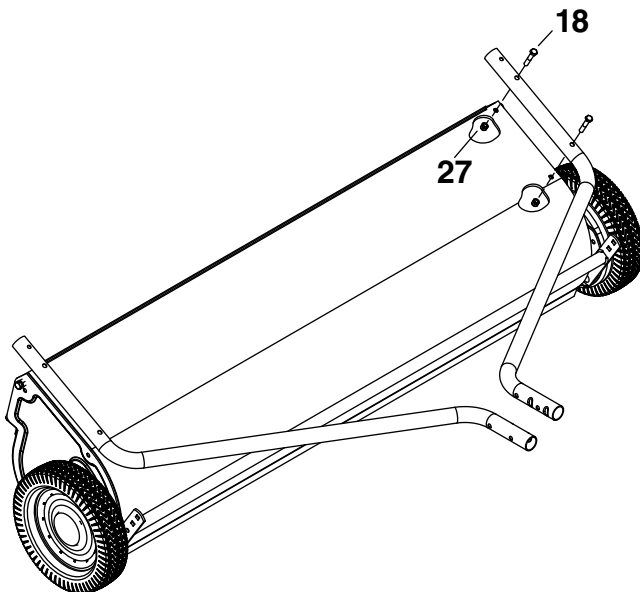
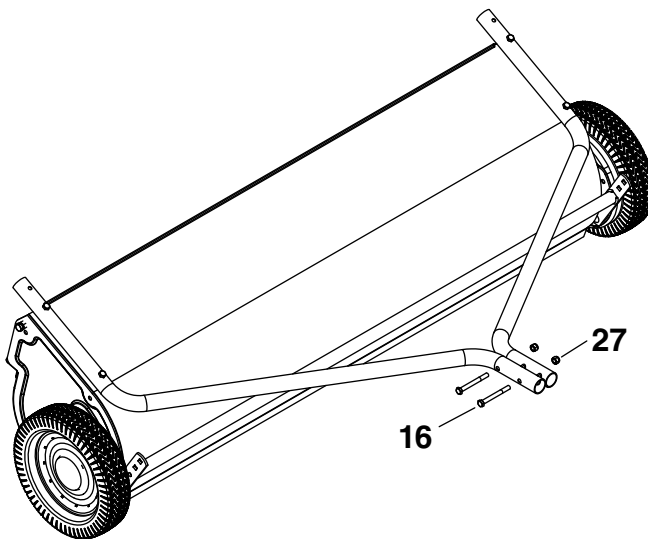

FIGURE 1
FIGURE 2
- Assemble the hitch brackets to the hitch tubes using two 5/16" x 2-1/4" hex bolts (17) and 5/16" nylock nuts (27). If your tractor drawbar has 10" or more ground clearance, place the bent hitch bracket on top. If it has less than 10" clearance, place the straight hitch bracket on top. **Do not tighten yet.**
- Tighten** all loose bolts and nuts as follows: Tighten the bolts and nuts assembled in figure 1. Tighten the bolts and nuts assembled in figure 2.
- Assemble the hitch pin (34), two spacers (38), and the large hairpin cotter (31) to the hitch brackets.